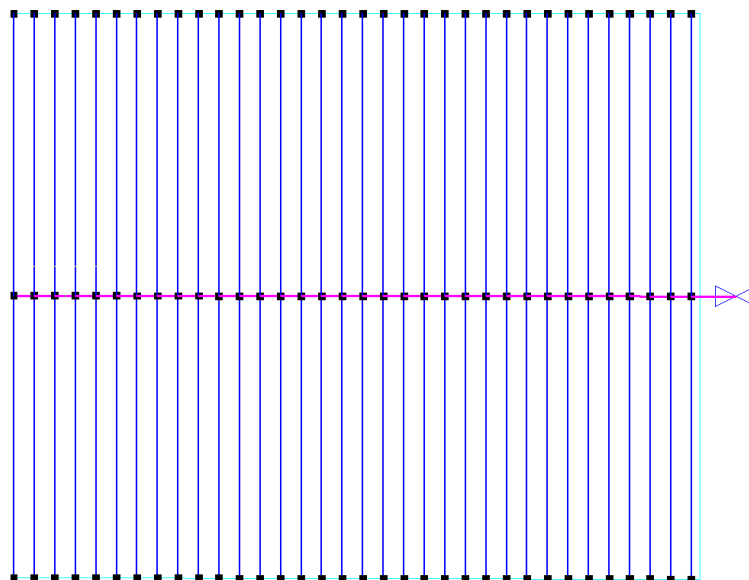

Figure 4-31
9. Now we need to select the lateral direction. Because **"Determine Automatically"** was selected, we can just click on the boundary we wish to align the laterals with. The block will automatically fill with tapes 2m apart. Select **View|Zoom All**. Once this is completed the laterals are automatically drawn, with a submain through the center of the block and with a central valve 13ft (4m) to the right as in Figure 4-31.